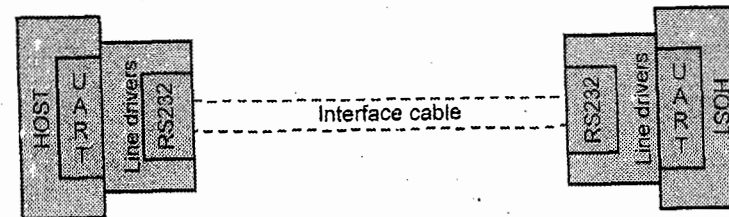

Fig. Q.1.1 Serial communication
- The RS-232 interface works in combination with UART universal asynchronous receiver/transmitter. It is a piece of integrated circuit integrated inside the processor or controller. It takes bytes and transmits the individual bits in a sequential fashion in a frame as shown in Fig. Q.1.1.